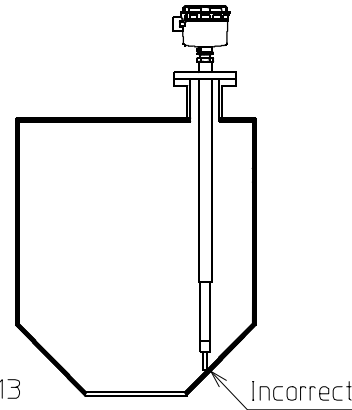

Fig. 13
- (6) Make sure the vibration reed is not in contact with anything. See Fig. 13.